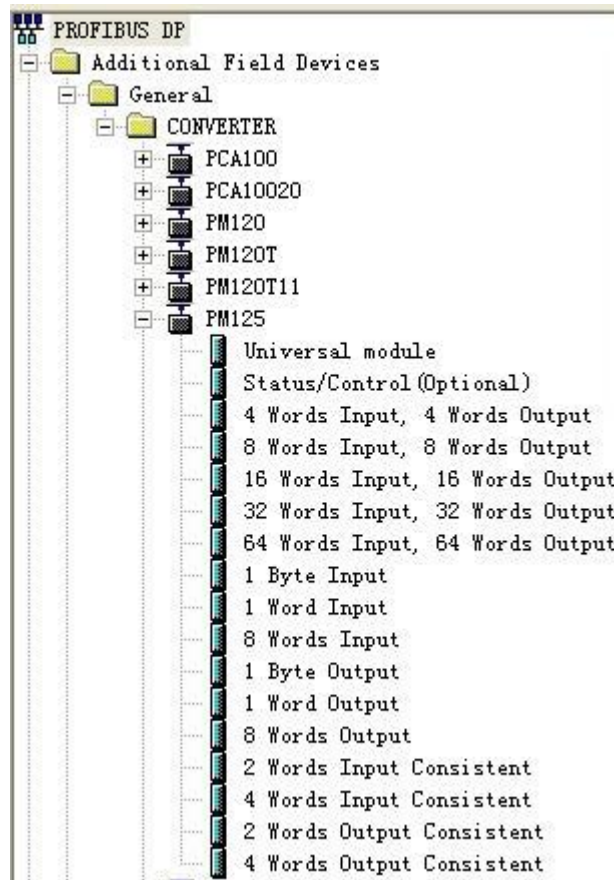

Figure 6
6. Here you can find your equipment in the right side of the window /PROFIBUS DP/Additional Field Devices/Converter/PM125/, Figure 6: